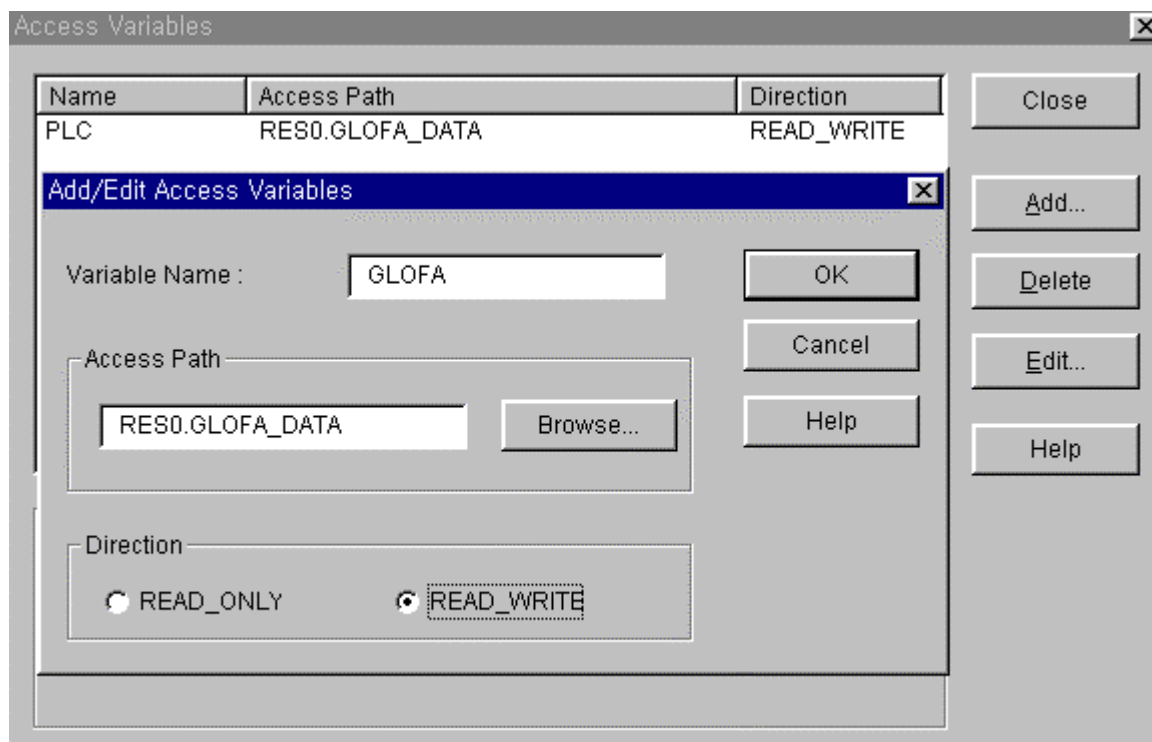

Fig. 6.3.8(H) Access path selection
Variable shown in 'Access variable list' as Fig. 6.3.8(H) shows path specification to access global variable, and default resource name of 'RES0' should be used for global variable specification.